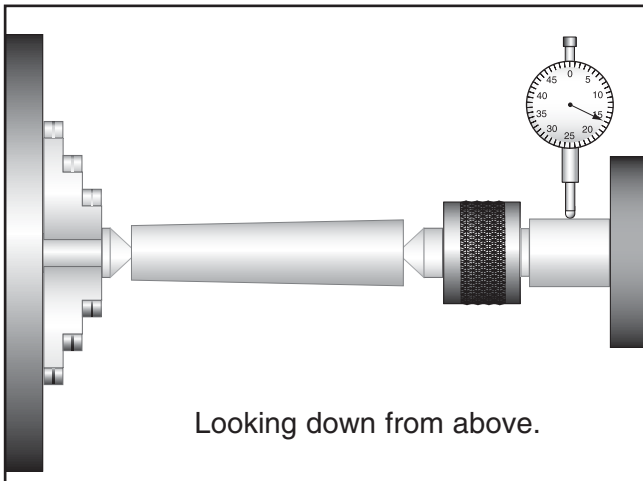

Figure 39. Adjusting for headstock end taper.
- Mount a dial indicator so that the plunger is on the tailstock barrel (**Figure 39**).
- Measure the stock with a micrometer. If the stock is wider at the tailstock end, the tailstock needs to be moved toward the operator the amount of the taper (**Figure 39**).